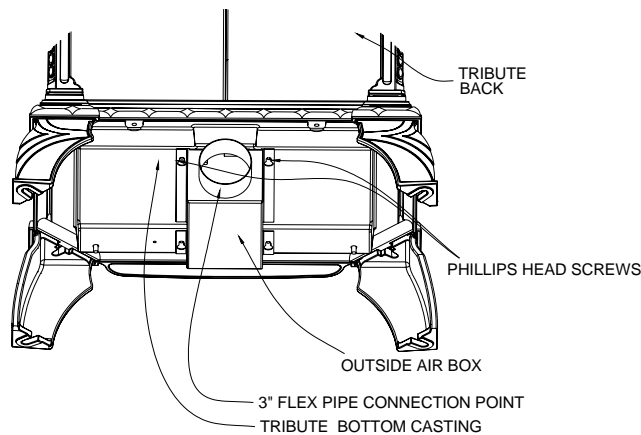

Figure 1.
1. Locate the four phillips head screws on each side of the air intake opening. The air intake opening can be found at the center of the bottom rear of the stove (Refer to figure 1).
3. Orientate the outside air box to match the position shown in figure 1.
4. Push the outside air box up to the bottom casting making sure the Phillips head screws protrude through the large diameter opening in the outside air box. When the box is tight against the bottom casting push it toward the front of the unit, sliding the Phillips screws into the smaller diameter opening (Refer to figure 1).